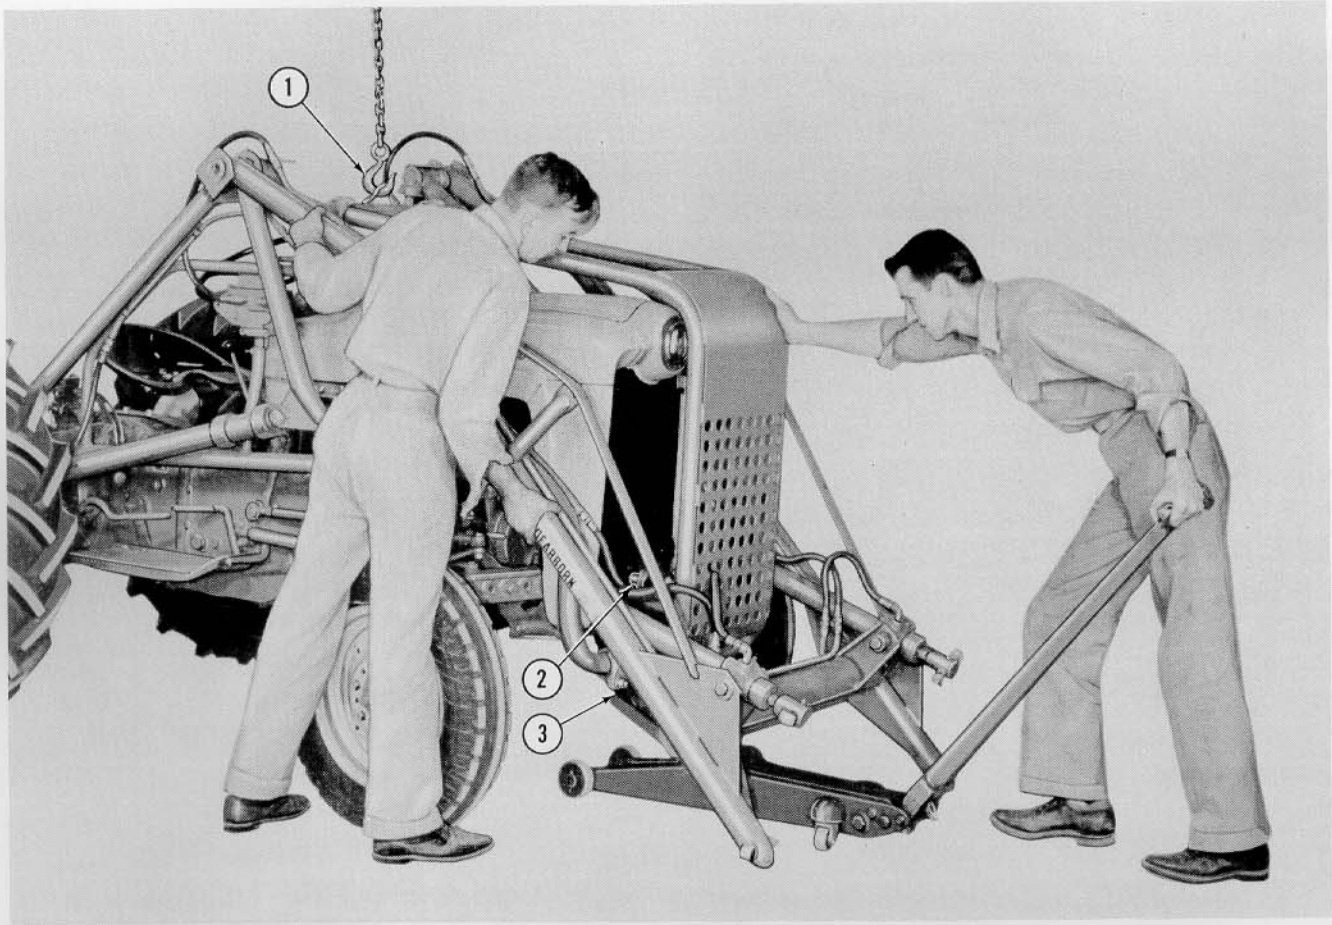

Figure 8
- d. Using a chain fall (1), Figure 8, or other suitable hoist, raise the loader and position it over the tractor as shown.
- e. Place a jack under the loader main frame as shown at (3). Raise the front end of the loader carefully, until the pump drive shaft and the guide are properly aligned with the hole in the tractor axle pivot pin and the splined drive hub. (See (2), Figure 8.)